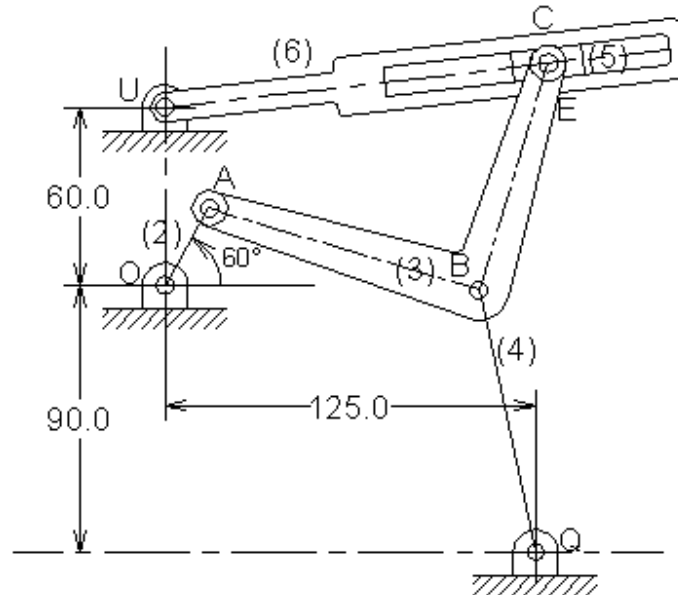

Figure P2.38
2.38 In the mechanism shown in Figure P2.38, crank OA rotates uniformly at 120 rpm clockwise. Find the angular velocity and angular acceleration of link DE and the sliding velocity and the sliding acceleration of the block C.